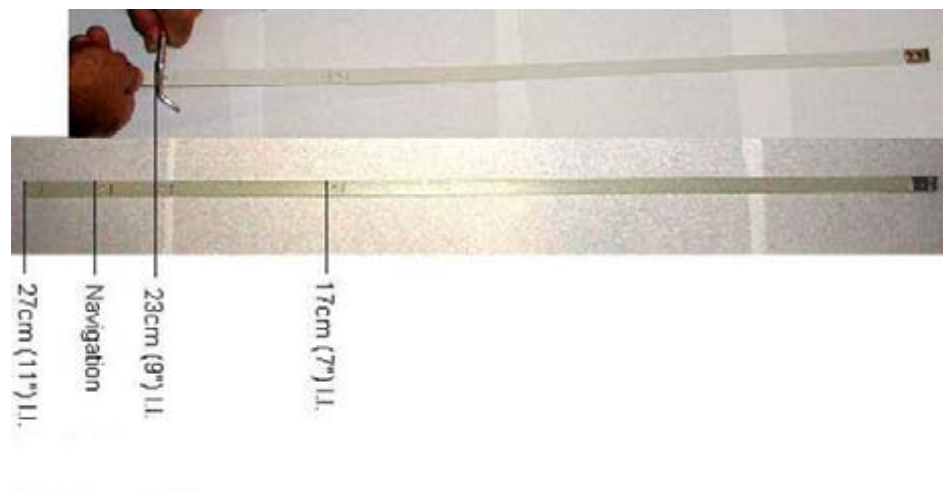

Fig. 3: Fracture points
- The tension band fits for the 27 cm I.I. For other I.I. sizes, the tension band has to be shortened at the marked fracture point. Apply flat pliers to the marked fracture point and bend several times until the band breaks ((Fig. 3 / p. 5) shows procedure for 23 cm I.I.).
- For 27 cm (11") I.I. and 23 cm (9") I.I. with 3D Navigation: Pull out laser diodes until they lock into outside catch. Replace position plates (Fig. 3 / p. 5) with the position plates delivered.